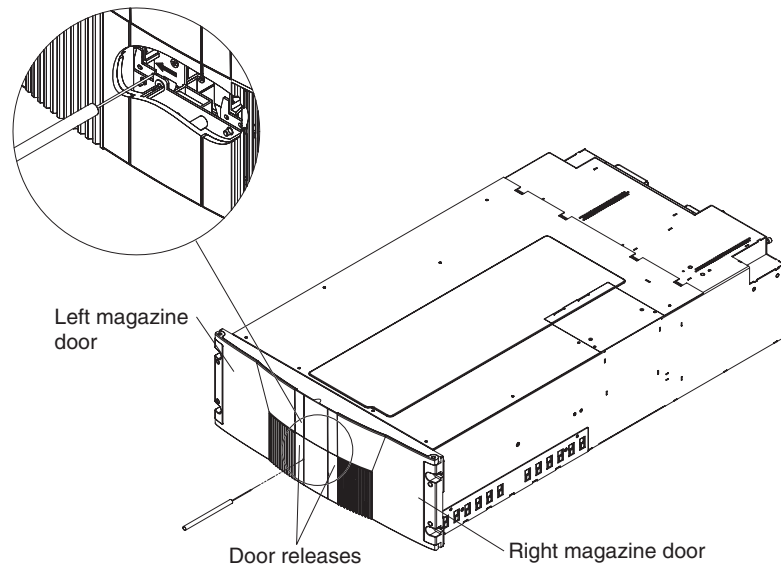

Figure 16. Door release
2. To open the door, insert the metal pick that is provided with the library chassis component into the door release hole as shown in Figure 16 on page 40.